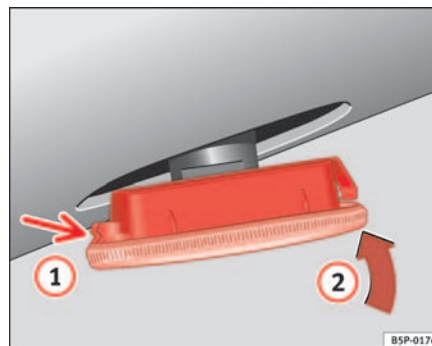

Fig. 194 Indicator
- First place the indicator in the opening in the bodywork, fixing the tabs ⇒ page 256, fig. 194, arrow ①.
- Insert the lamp as shown by the arrow ② ⇒ page 256, fig. 194. ■